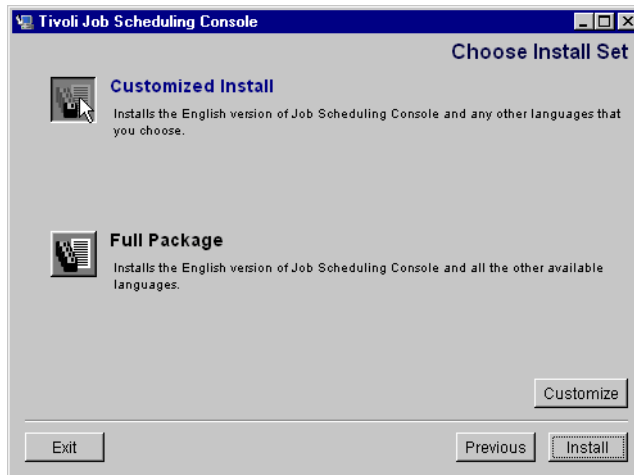

Figure 54. JSC Installation
6. Choose **Customized Install** if you want to choose a language other than English or install selective components as shown in Figure 54. Selecting Full Package is sufficient for English versions. We selected **Customize Install** to show you the different options.